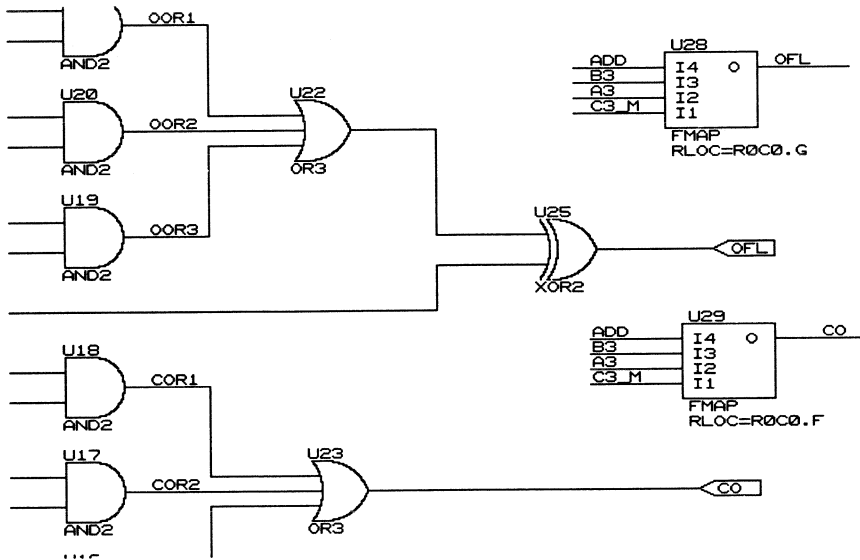

Figure 11-16 Zooming In on the ADSU4 RPM Schematic
If your design is targeted towards the XC4000 family, load the ADSU4 schematic. If you are targeting an XC3000 family part, you will not be able to bring up the XC4000 schematic successfully. Read through the text while looking at the schematic for the RPM depicted in Figure 11-16, but do not perform any of the commands in this section. Continue the tutorial with the next section, "Returning to the CALC Schematic."
3. Use the **Zoom** → **In** command to zoom into the upper portion of the schematic as shown in Figure 11-16.